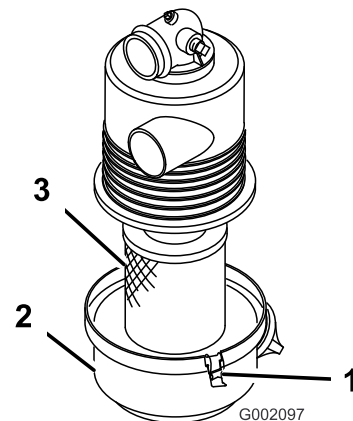

Figure 13
1. Check the air cleaner body for damage, which could possibly cause an air leak. Ensure the cover is sealing around the air cleaner body (Figure 13).
2. Release the latches securing the air-filter cover to the air-filter housing (Figure 13).
3. Separate the air-filter cover from the air-filter housing, and clean the inside of the cover (Figure 13).
3. Insert the air-filter element into air-filter housing (Figure 13).
4. Align the air-cleaner cover with the air-cleaner housing (Figure 13).
5. Secure the cover to the housing with the latches (Figure 13).